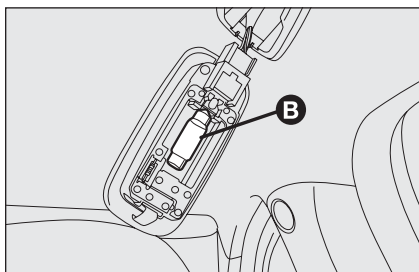

fig. 41
- replace the bulb **B-fig. 41** releasing it from the side contacts making sure that the new bulb is correctly clamped between the contacts.